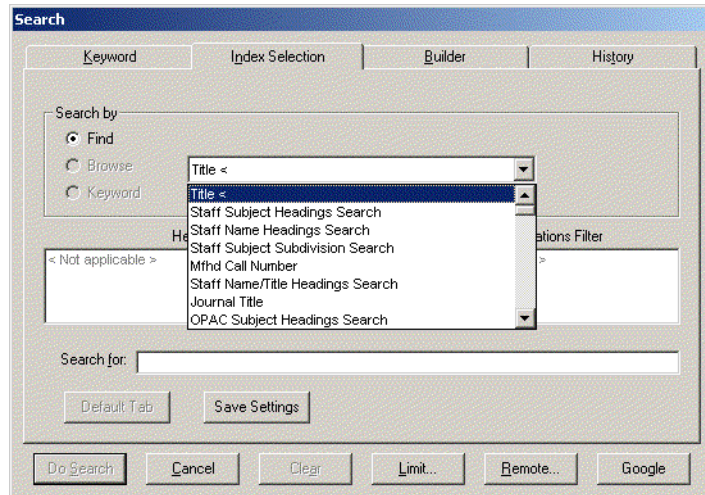

Figure 2-34. Type of search
2. Select the type of search wanted from the drop-down list (see Figure 2-34).